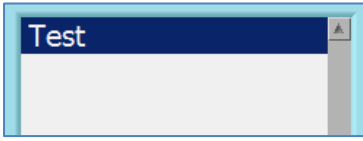

Figure 4.2-1: The Recipe List-box: The “Test” Recipe is selected.
Recipes are listed in the centred list-box in the **Access Recipe Database** window. They can be selected by clicking on a recipe's name from the Recipe List-box (Figure 4.2-1). The selected recipe is highlighted in blue.
1. Select the desired recipe from the Recipe List-box on **Access Recipe Database** window. (Figure 4.2-1) See 4.2 Select Recipe for more details.
1. Select a recipe from the Recipe List-box on **Access Recipe Database** window. (Figure 4.2-1) See 4.2 Select Recipe for more details.